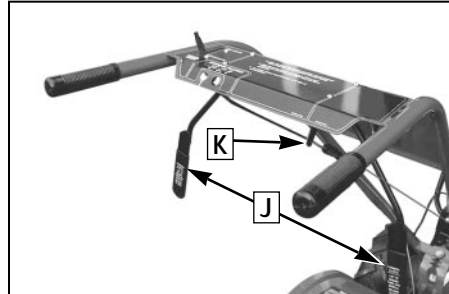

Figure 2-5: Forward Clutch Control levers (J). Forward clutch control linkage (K).
1. Remove any fasteners (rubber bands, tape, etc.) that may secure the Forward Clutch Control levers (J, Figure 2-5) to the handlebar.
2. The forward clutch control cable (with attached spring) is hanging loosely near the right side wheel. Being careful not to kink or stretch the cable, insert the z-connector (at the end of the spring) into the hole at the end of the forward clutch control linkage (K, Figures 2-5 and 2-6).